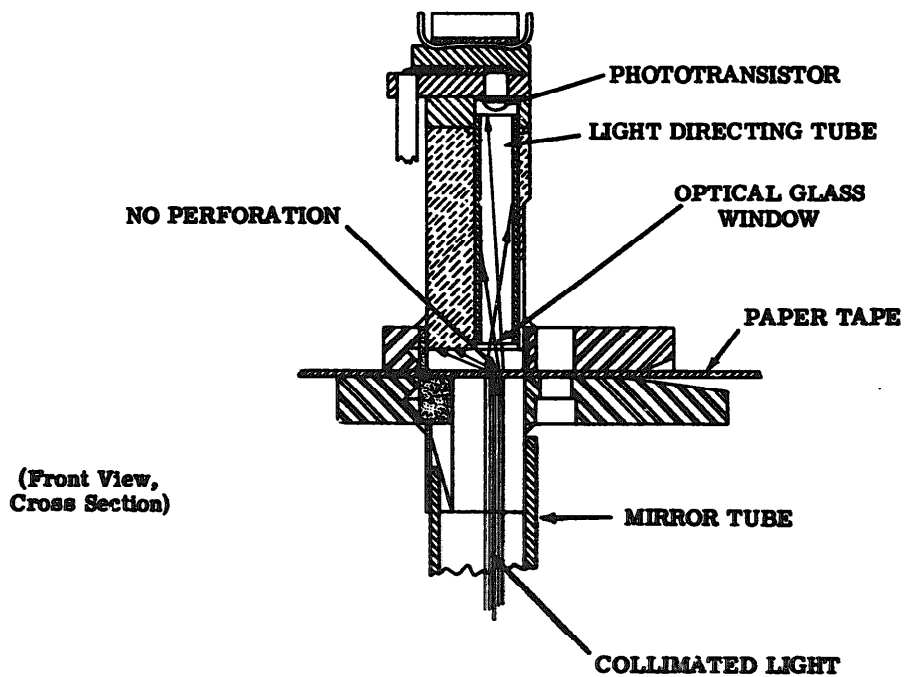

Figure 19 - Phototransistor Detects No Perforation in Tape
3.15 No Hole Condition (Figure 19): When blank tape is in position over the die plate window, light cannot pass directly through the tape. Rather, the light is diffused and randomly oriented by the fibers in the tape. Further, as the diffused, disoriented light passes through the light directing tube, some of this light is absorbed and disoriented by the tube. The resulting "dim" light will not cause the phototransistor to respond. This results in a no current (space) condition.